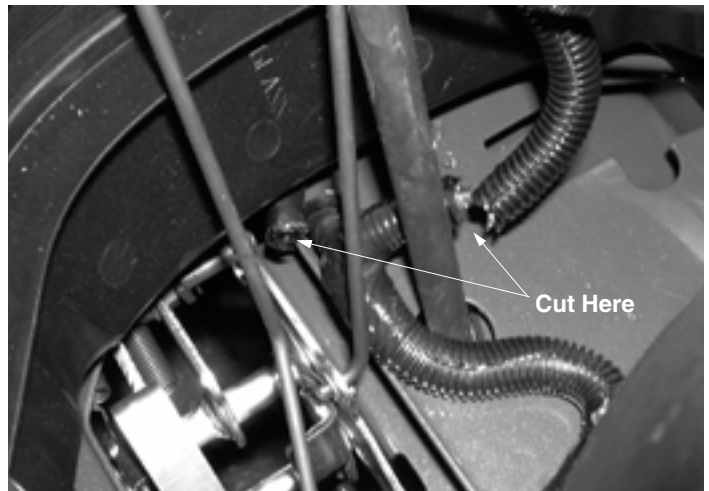

Figure 5
12. Cut harness at base of steering shaft as shown. See Figure 5.